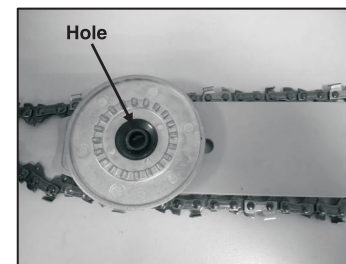
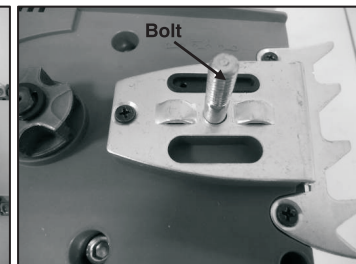
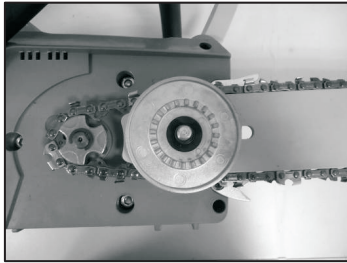
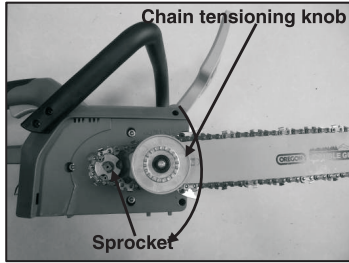

Fig.2D
Fig.2E
Fig.2F
Fig.2G
6. Match the hole of the guide bar with the bolt on the machine (Fig.2D/Fig.2E). Put the guide bar into place (Fig.2F). Place the saw chain around the sprocket with teeth cutting edges facing away from the drive sprocket along top edge of the guide bar. Meanwhile the chain tension knob should be rotated clockwise to its stop to tension the saw chain. (Fig.2G)